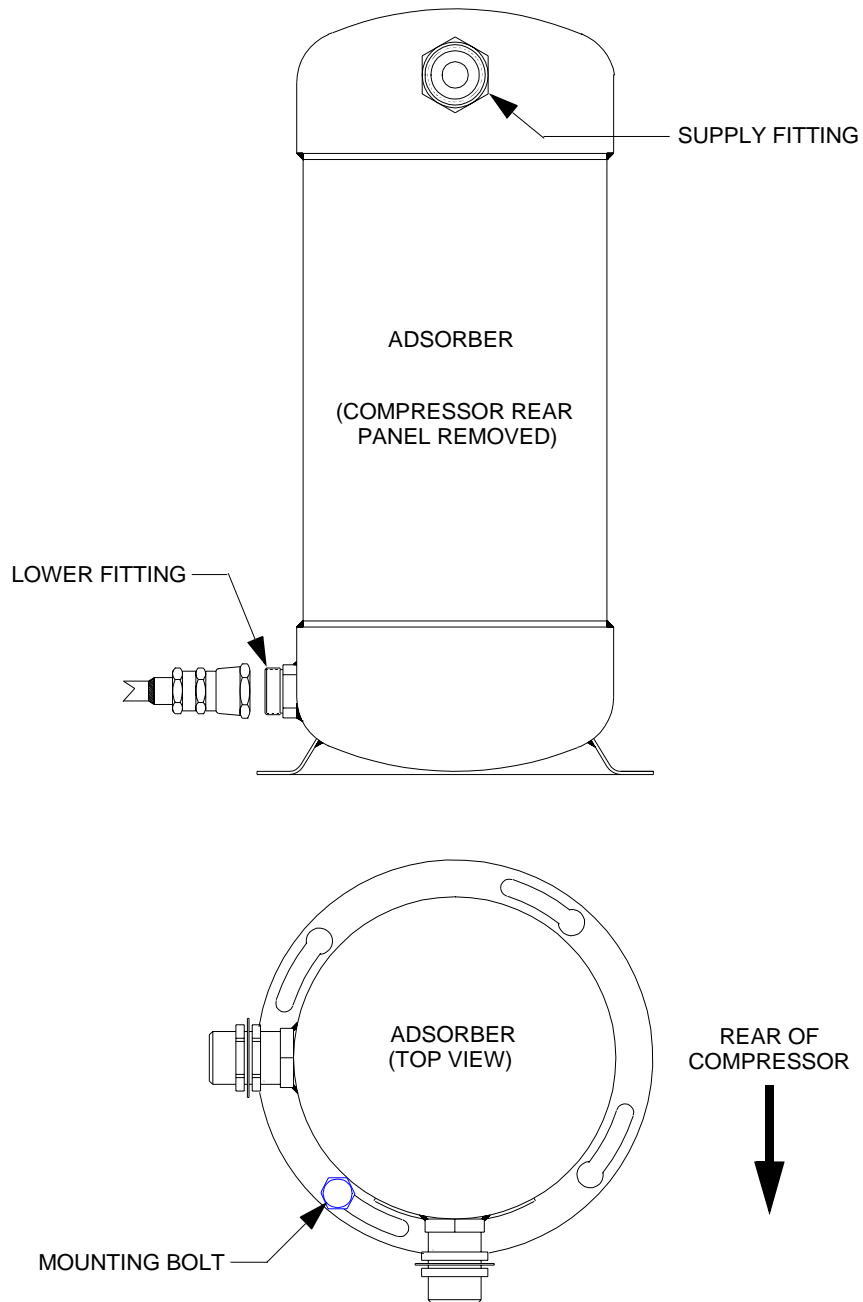

Figure 2: Adsorber Fittings and Mounting Bolt Locations
4. Using a 1-3/16 in. wrench, and a 1-1/8 in. wrench, disconnect the self sealing coupling on the bottom of the adsorber as shown in Figure 2.
5. Using a 7/16 in. wrench, remove the adsorber mounting bolt as shown in Figure 2.
9. Connect the self sealing coupling on the bottom of the adsorber as shown in Figure 2 by hand.
13. Connect the SUPPLY self sealing coupling on the adsorber as shown in Figure 2 by hand.